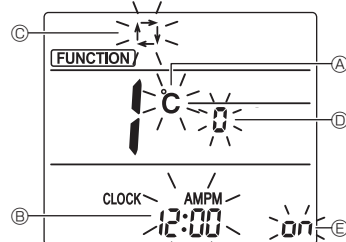

Fig. 6-10
| Item             | Setting                         | Fig. 6-10 |
3. Check that function No. "1" is displayed, and then press the **SET** button ③. The display setting screen will be displayed. (Fig. 6-10)